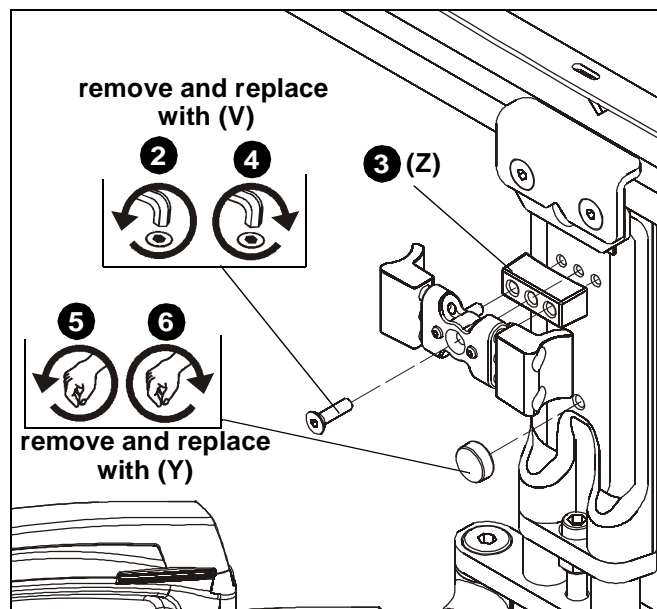

Figure 29
2. Remove flat hex-head screw holding latch to center support. (See Figure 29)
3. Place latch spacer (Z) behind latch and line with holes on center support. (See Figure 29)
4. Install #10-24 x 1 1/4" flat hex-head screw (V) through latch and latch spacer and into holes on center support. (See Figure 29)
5. Remove 1/2" knob assembly installed on center support. (See Figure 29)
6. Replace 1/2" knob assembly with 1" knob assembly (Y). (See Figure 29)